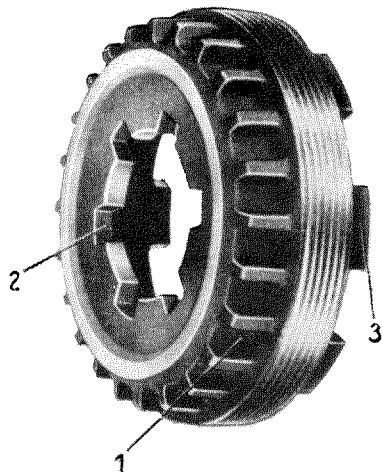

Fig. 35 — 4/31
79. Screw the threaded ring right home into the left axle tube (see Fig. 35 — 4/31). Then press in the outer race of the taper roller bearing, using Assembly Arbor 180 589 04 39.
80. Put the differential housing (21) into the rear axle housing and screw the left axle tube to the rear axle housing (see Fig. 35 — 4/21).
Note: The notches (1) of the threaded ring are visible through the bore for the locking screw (Fig. 35 — 4/31).